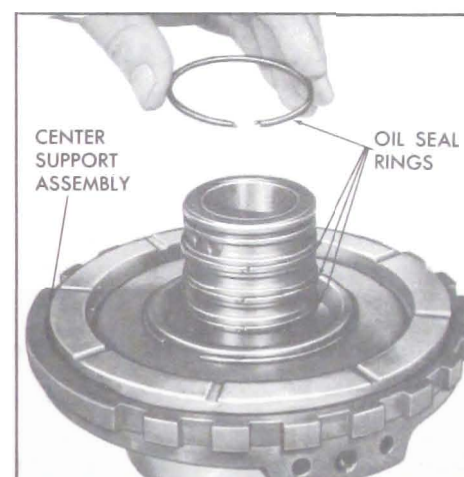

Figure 5-674
7. Install four (4) hook type oil rings. See Figure 5-674.